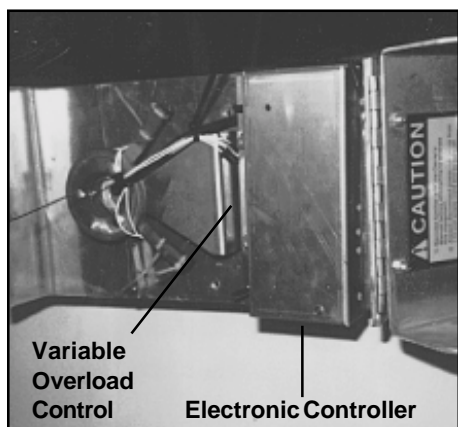

Figure 3
2. Place the electronic controller over the mount bolts as shown in figure 3. Put two more 5/16" nuts over the bolt ends and secure.